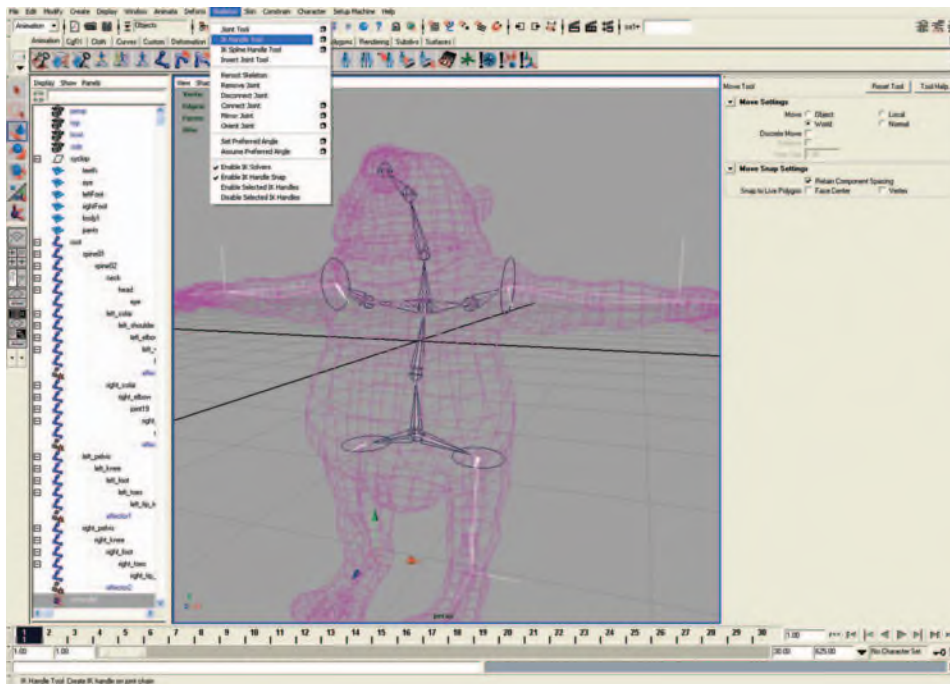

FIG. 8-44 Applying Inverse Kinematics (IK) to your skeleton.
Inverse Kinematics (IK) is an animation technique inspired by string puppets in which a chain of articulations follows the animation of a single string attached to the end of the chain (see Figure 8-44).